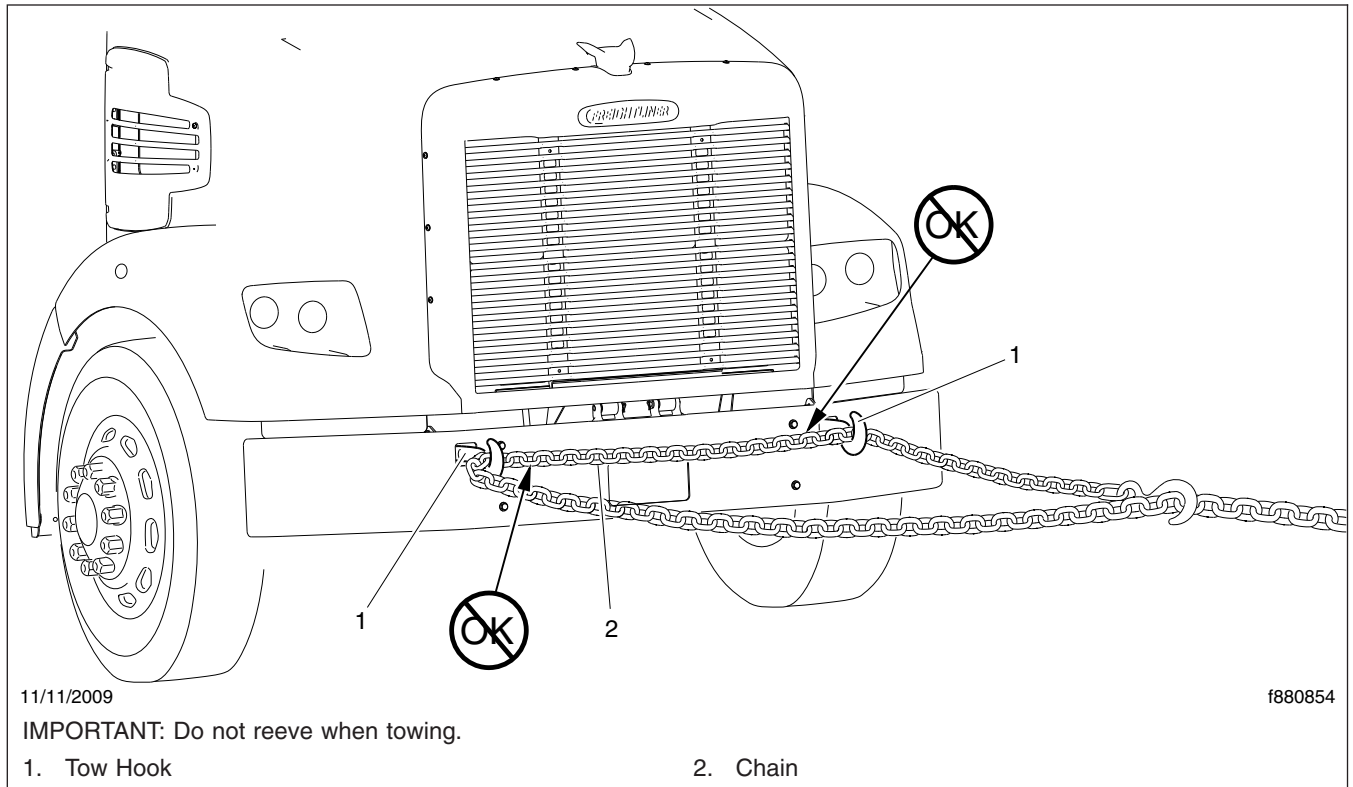

Fig. 23.3, Reeving
6. Attach the towing device. Do not pass a sling (for example, a rope or chain) from one tow hook to another to fasten for towing. Known as reeving, this practice is not permissible in most industrial applications of towing and hoisting. Reeving can overload the hooks and result in damage to the vehicle. See Fig. 23.3.